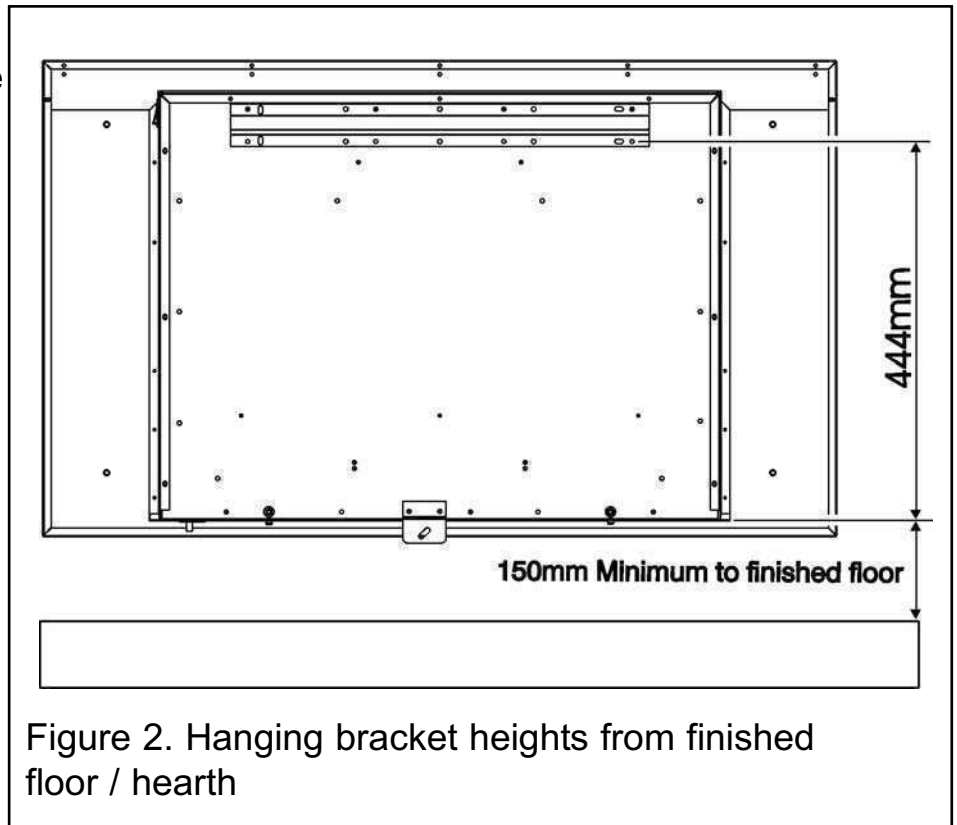

Figure 2. Hanging bracket heights from finished floor / hearth
- If fitting to a conventional brick wall then use the outer slotted holes in the bracket. If fitting to a plasterboard wall that has a wooden frame behind it then use all five fixing holes in the bracket. This is required to spread the load. Mark the positions of the hanging bracket holes on the wall (See figure 2). There is a 150mm clearance required